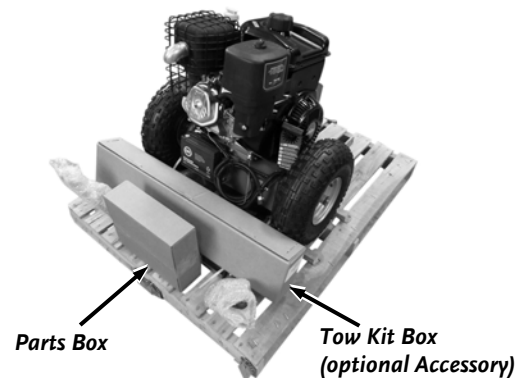

Figure 3
5. Remove the Parts Box and Tow Kit Box (optional accessory) from the Pallet (**Figure 3**).